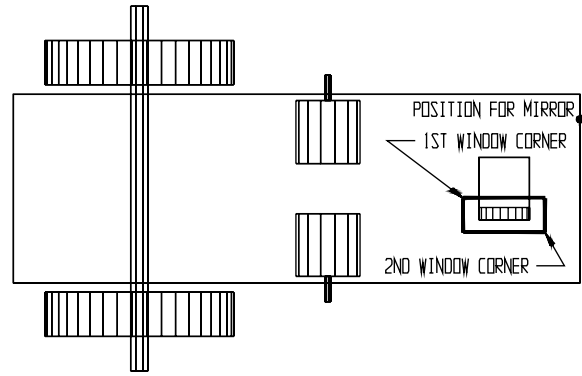

FIG. 18
Step 6. In the Top View, window around the caster's side. To window, move the cursor to just outside the top left corner of the caster's side and click to start the 1ST WINDOW CORNER, **Fig. 18**. Stretch the window to surround the caster's side. Click to set 2ND WINDOW CORNER.
Step 9. To indicate position on plane, in the Top View, click on the right side of the chassis rectangle, **Fig. 18**.